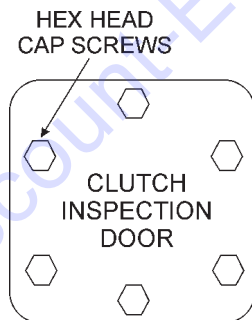

Figure 48. Clutch Inspection Door
3. To gain access to the "**clutch Inspection door**" remove the six 1/2-inch cap screws (Figure 48) and lock washers that secure the clutch inspection door. Remove door and gasket.
5. Refer to Figure 48 for steps 5A through 5F: